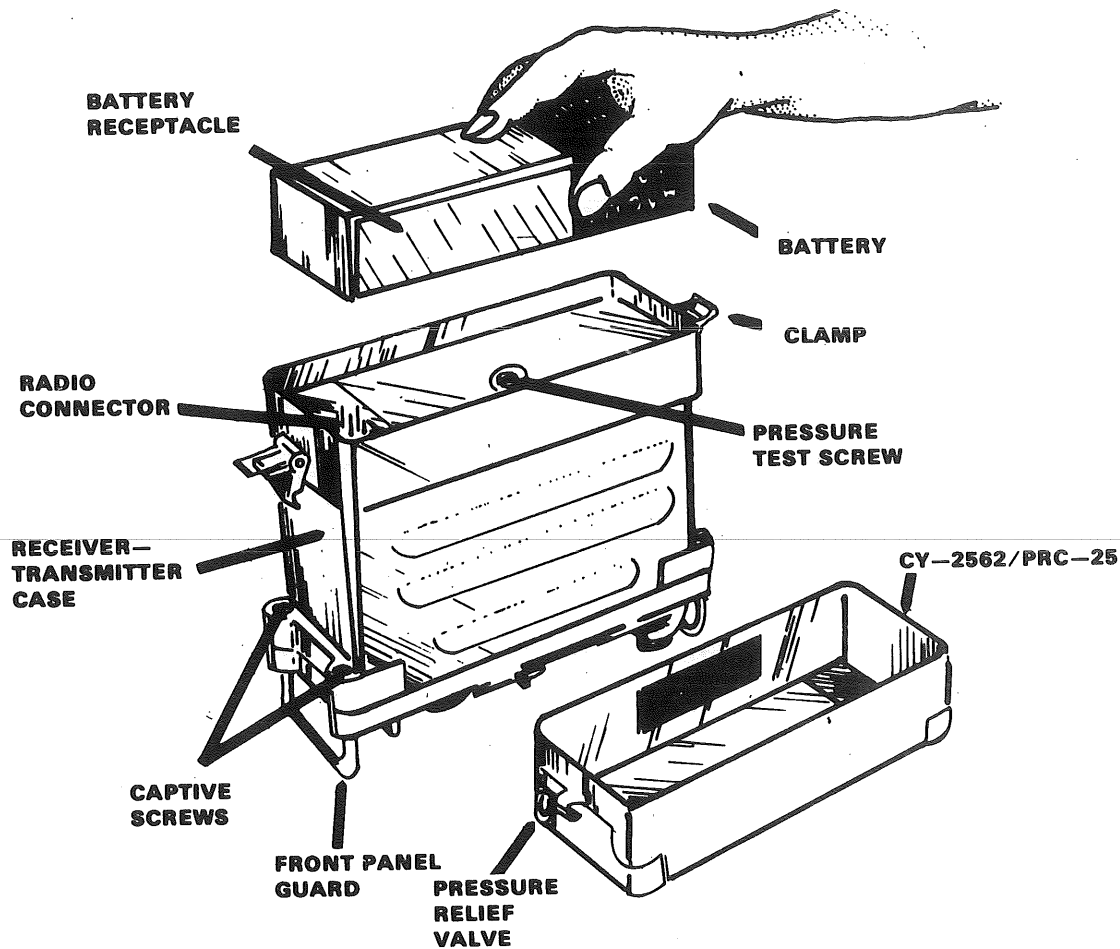

Figure 1. Installing Battery in Receiver-Transmitter.
1. Insert battery. (Refer to fig 1 and TM 11-5820-667-12, chap 2, para 2-4, p 2-2.)